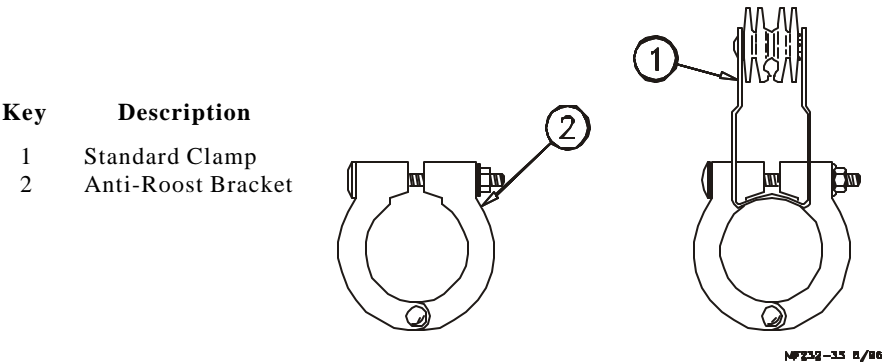

Figure 26. Tube Clamp and Anti-Roost Bracket (side view)
- 3. Place a Tube Clamp Assembly **or** Clamp/Anti-Roost Bracket at each joint. Figure 26 shows the standard Clamp and Clamp/Anti-Roost Bracket.